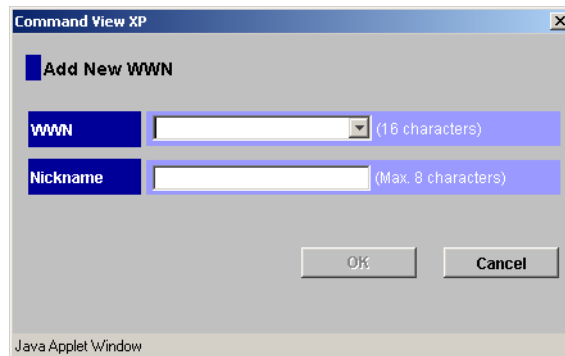
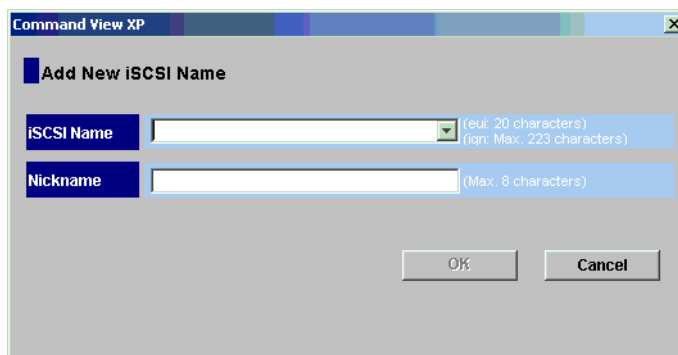

Figure 94: Add New WWN window (Fibre Channel environment)
Figure 95: Add New iSCSI Name Window (iSCSI environment)
7. After LUN security has been enabled, in the LU Path tree right-click the host group and then select **Add New WWN** (for a Fibre Channel environment) or **Add New iSCSI Name** (for an iSCSI environment) in the pop-up menu. The **Add New WWN** (or **Add New iSCSI Name**) window appears (see Figure 94 page 227 for Fibre Channel and Figure 95 page 228 for iSCSI).